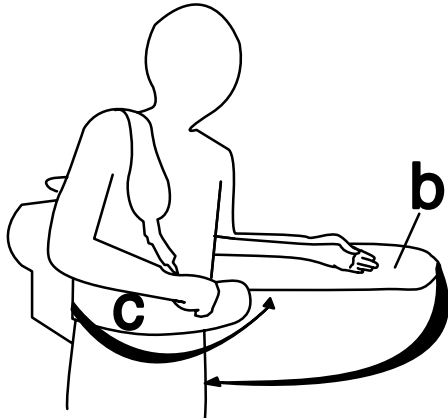

FIG. 13
10. Adjust the comfort of the shoulder strap by adjusting the length of the strap and/or attaching the front snap hook to any of the other rings on the front of the waistbelt (Figure 13).